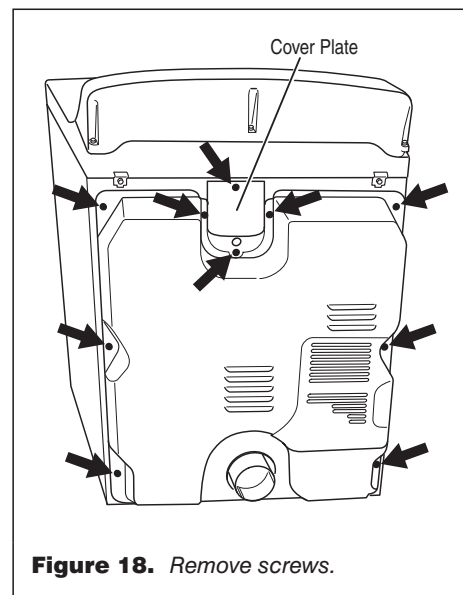

Figure 18. Remove screws.
2. Remove the cover plate screw and cover plate. See figure 18.